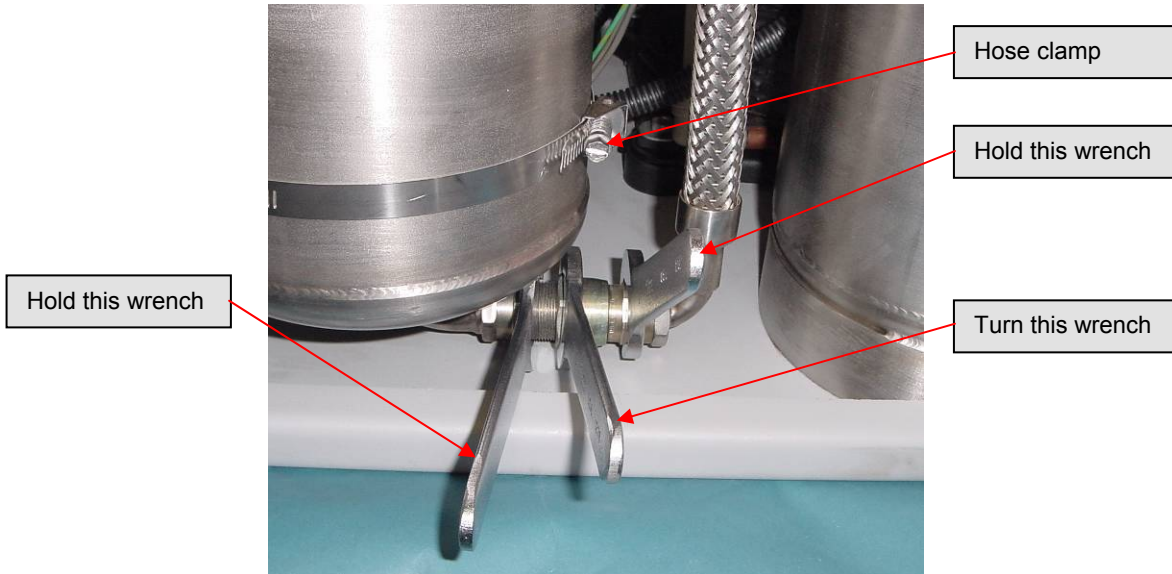

Figure 8-3: Disconnecting the adsorber Aeroquip®
- Use three wrenches, as shown in **Figure 8-3.**